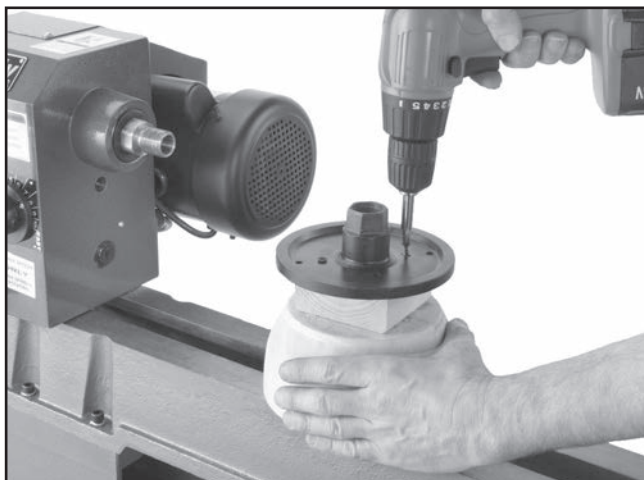

Figure 47. Typical attachment of faceplate to workpiece (shown with backing block).
2. Center the faceplate on the workpiece and attach it with wood screws that do not have tapered heads (see **Figure 47**).